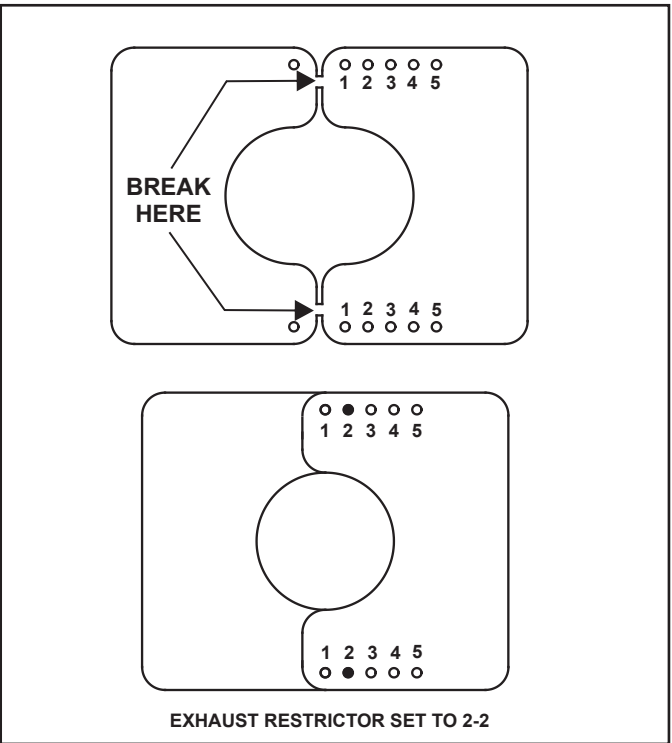

Figure 4.14 Exhaust Restrictor Installation
2. Break the exhaust restrictor into two pieces. Do this by bending the part back and forth until it breaks. See Figure 4.14.
3. Orientate and align the two pieces of the exhaust restrictor as shown in Figure 4.14.